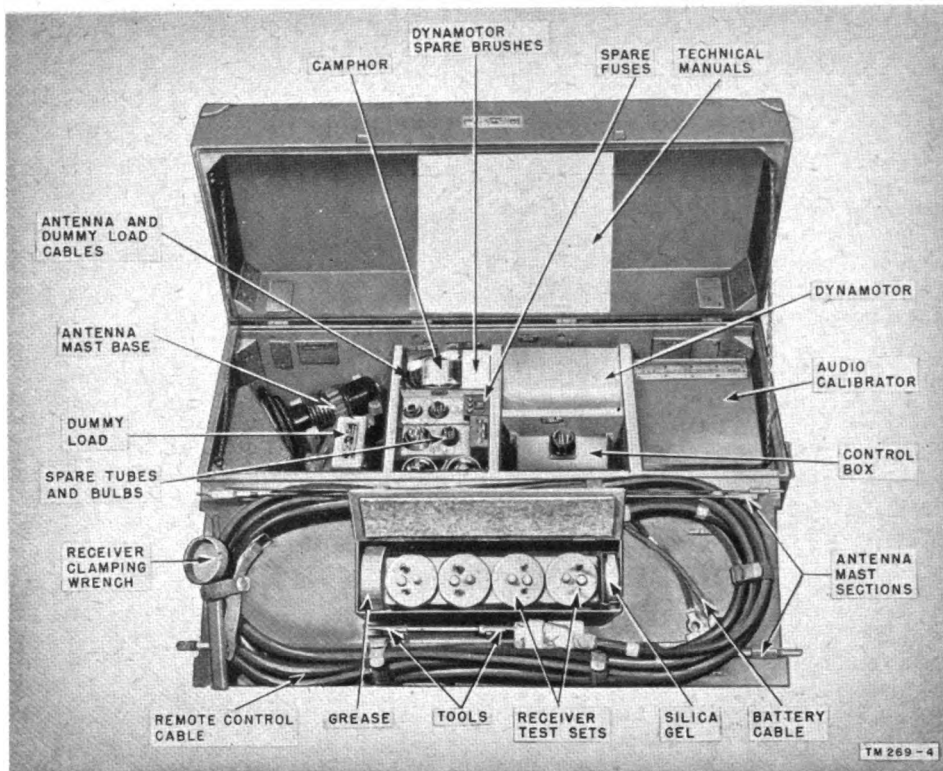

Figure 4. Spare parts Chest CY-279/TRT-1.
a. Radio Set AN/TRT-1 is packed in two wooden boxes, as listed in table II. One box contains Radio Transmitter T-87/TRT-1, including tubes, crystals, dynamotors, and miscellaneous items. The second box contains spare parts Chest CY-279/TRT-1 (fig. 4) which includes test equipment for the transmitter and receiver, tools, and accessories and running spares for the transmitter. The battery is not included with the transmitter and must be procured separately. Any standard storage battery or combination of storage batteries with the required 12- or 24-volt output can be used with Radio Set AN/TRT-1.
- (1) The additional plug-in units make it possible to set up a different combination of radio and audio frequency for each receiver in the box. Each box is marked on the outside in large black letters with a *group number* which indirectly identifies the frequency of the plug-in units in the individual receivers and those included in the box as extras. Table III contains the group numbers of the plug-in units (stamped on top of